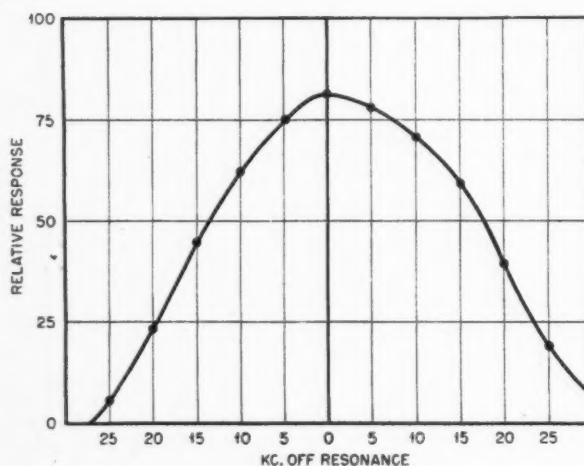

Fig. 1. A resonance curve plotted "by hand," with separate readings taken at a number of points.
► In last month's issue we showed how audio waveforms were plotted against bases representing "time." But if we wish to illustrate the response of a tuned circuit we must plot its response against a "frequency" base, as in *Fig. 1*.